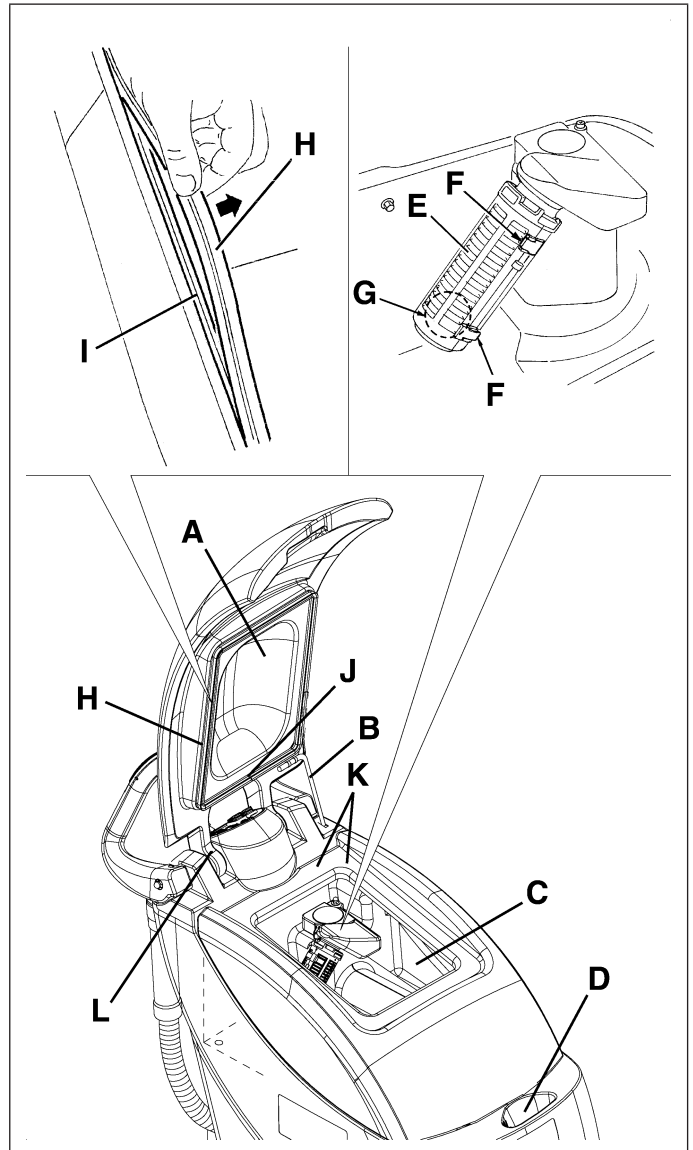

Figure 27
3. Lift the cover (A, Fig. 27) and apply the cover stand (B), then clean and wash the cover, the tanks (C and D) and the vacuum grid (E) with clean water.
4. If necessary, release the retainers (F, Fig. 27), open the vacuum grid (E), remove the float (G), then carefully clean and reinstall them.
5. Check the cover sealing gasket (H, Fig. 27) of the recovery tank for wear.
*The gasket (H, Fig. 27) creates vacuum in the tank, which is necessary for the vacuuming of the recovery water.*
If necessary, replace the gasket (H, Fig. 27) after removing it from the housing (I).
When reassembling the new gasket, install the joint (J) in the central area, as shown in Fig. 27.
6. Check the gasket (H, Fig. 27) seating surface (K) for integrity and sealing capabilities.
7. Check the vent hole (L, Fig. 27). If clogged, clean it.
*The hole (L, Fig. 27) compensates the air in the cover interspaces, thus allowing the creation of vacuum in the recovery tank.*
8. Remove the cover stand (B, Fig. 27) and close the cover (A).